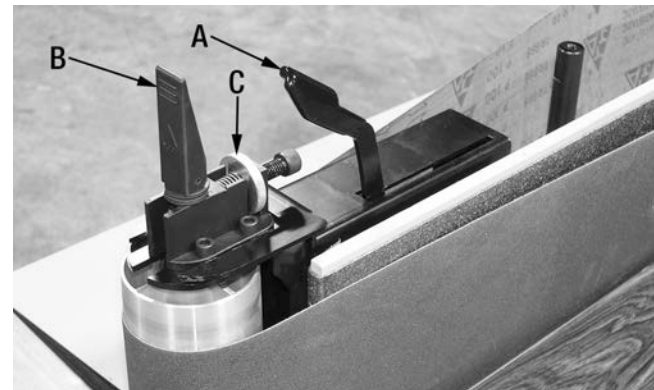

FIGURE 9
- 3) If an adjustment is needed, move the tension lever (A) Fig.9 completely to the left "loose" position as shown.
- 4) Lift the belt tracking locking lever (B) Fig.9 and turn the adjustment wheel (C) to adjust belt tracking. Turn adjustment wheel clockwise to track belt downwards on the roller, turn counterclockwise to track belt upwards on the roller.
- 5) Lower belt tracking locking lever (B) Fig.9, move the tension lever (A) completely to the right "tensioned" position. Turn the edge sander On for a few seconds and observe the tracking of the sanding belt. Repeat until sanding belt is tracking properly.